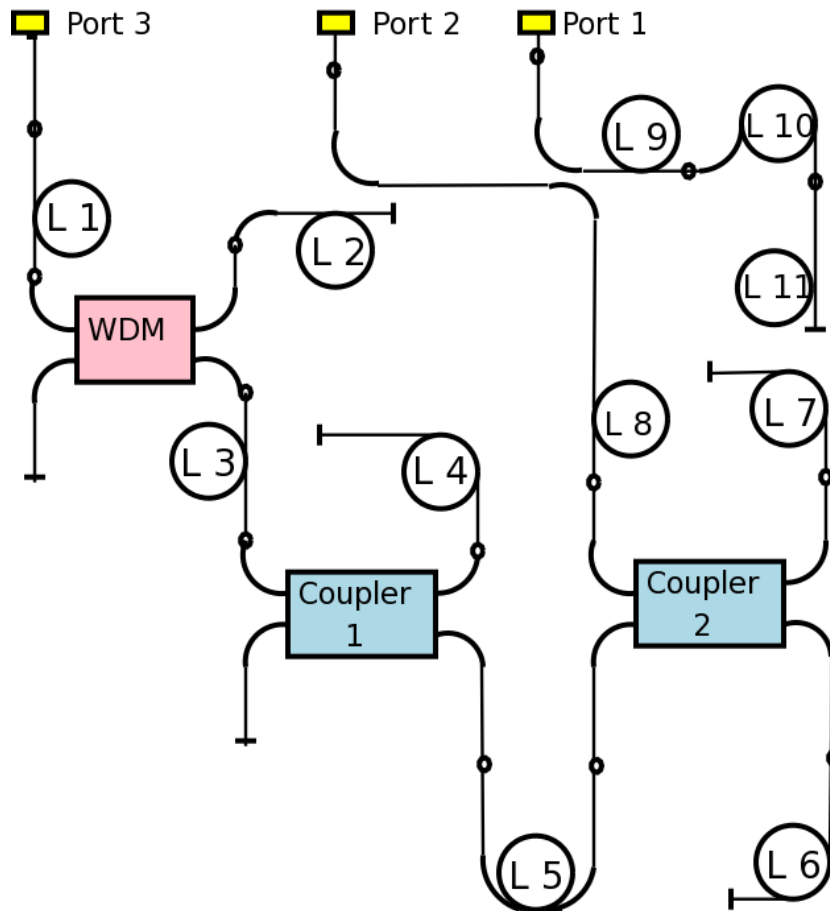

Figure 12.1: Schematic Diagram of Network
1. Connect the long 2km reel to the OTDR and to Port 1 of the network box. The schematic for port 1 is outlined in Figure 12.1.
1. Connect port two of the network box via a patch cord to the OTDR. The network schematic of port 2 can be noted in Figure 12.1.